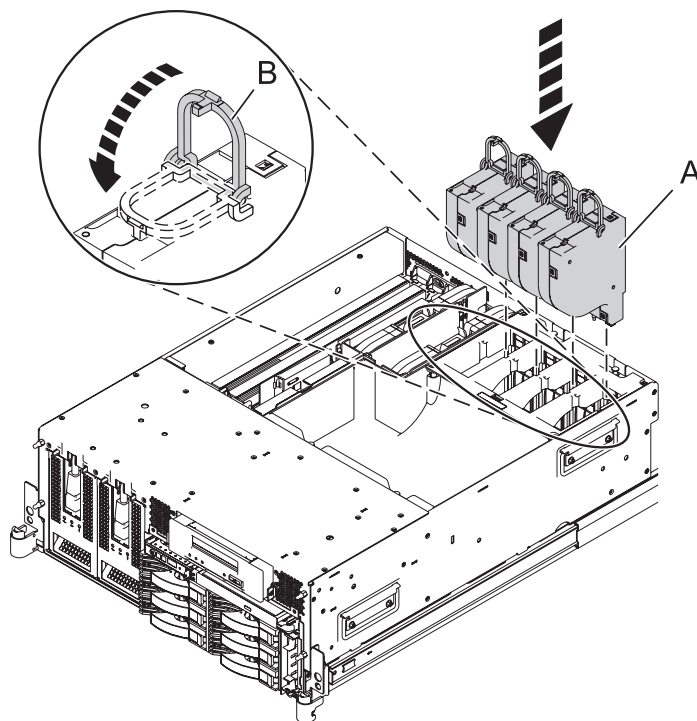

Figure 19. Replacing the fans
16. Replace the fans (A) and secure each of the fan pull tabs (B) as shown in Figure 19.